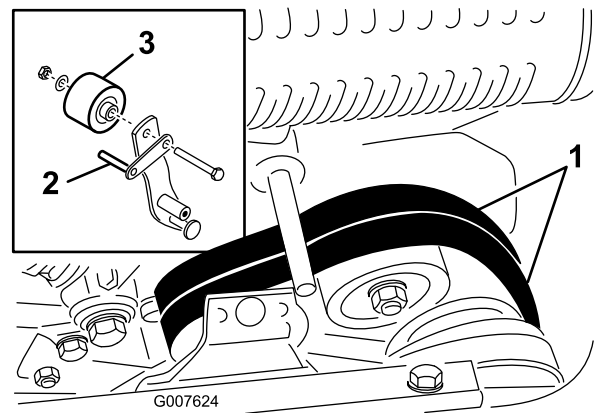

Figure 30
8. To push or pull the machine easier without starting the engine, adjust the belt guide (Figure 30, inset) as follows: